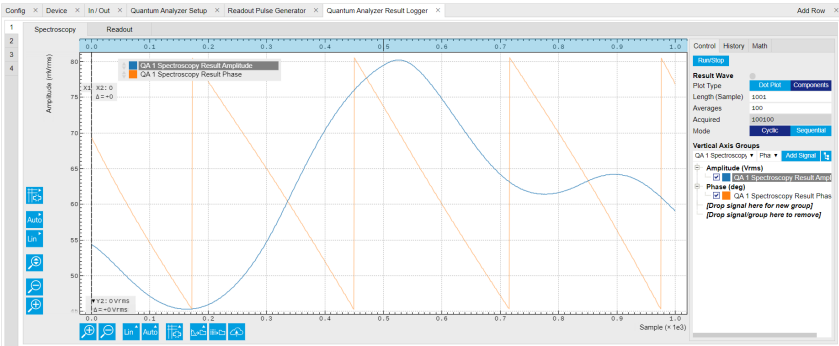

Figure 4.42: Measurement results on the QA Result Logger Tab.
- The measurement result (complex data) is normalized by the integration length and displayed on the QA Result Tab, as shown in Figure 4.42. Select "Dot Plot" to display result in IQ (complex) plane.